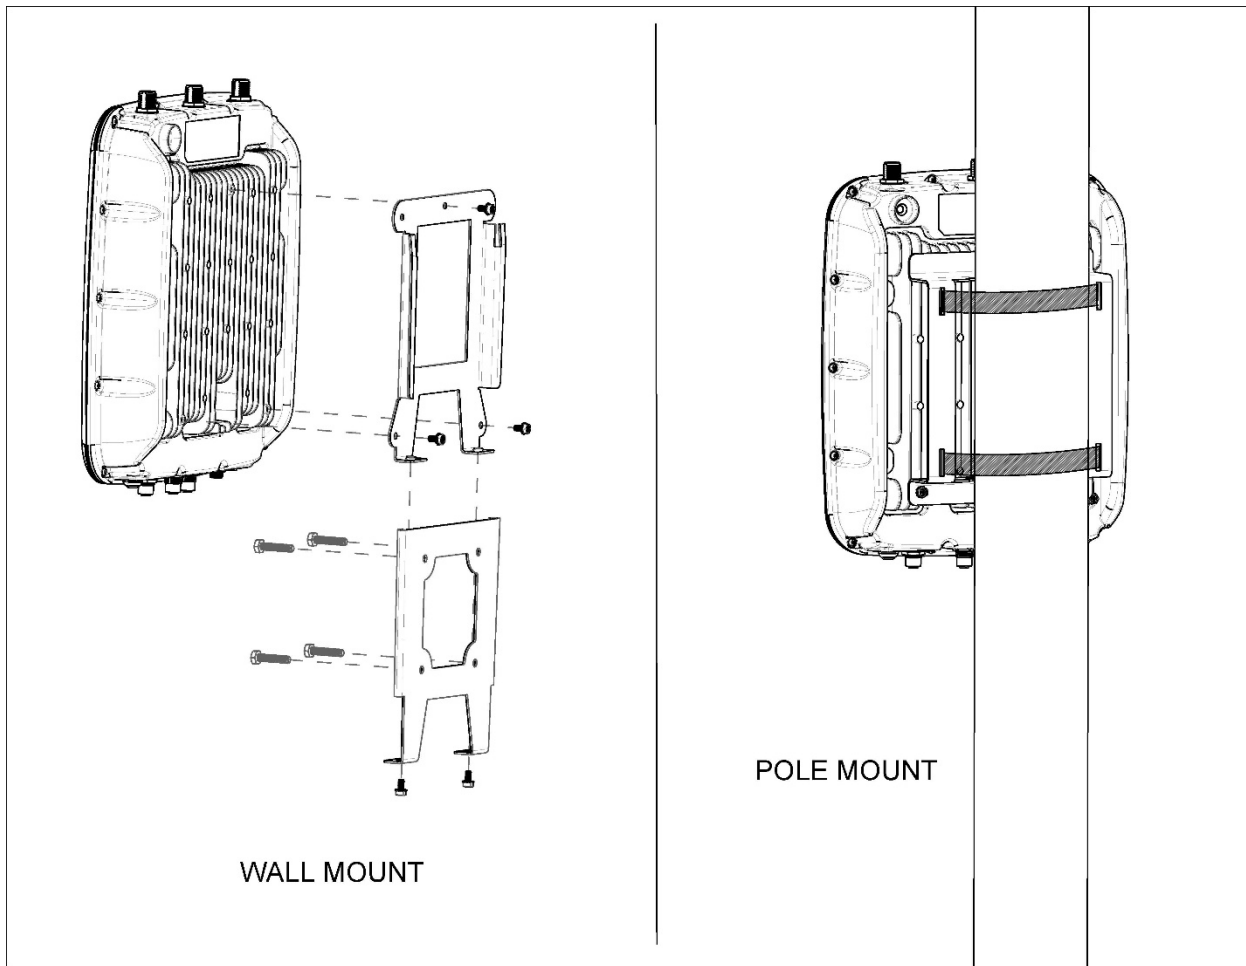

Figure 3
The unit may be mounted either on a flat surface (such as a wall) or on a pole (refer to Fig. 3). The wall mount bracket is included in the installation kit. Note that this bracket consists of two pieces: one piece attaches to the VHH10 unit and the other piece gets mounted to the surface of the wall.
IMPORTANT: You must ensure that the unit is mounted so that the edge with the antenna connections facing UP, as shown in Fig. 3. Also make sure to orient the wall mounting bracket correctly, as shown in the diagram.
5. Insert 2 M8 screws into the locking flanges at the bottom to fasten the two pieces of the mounting bracket together (see Figure 3).